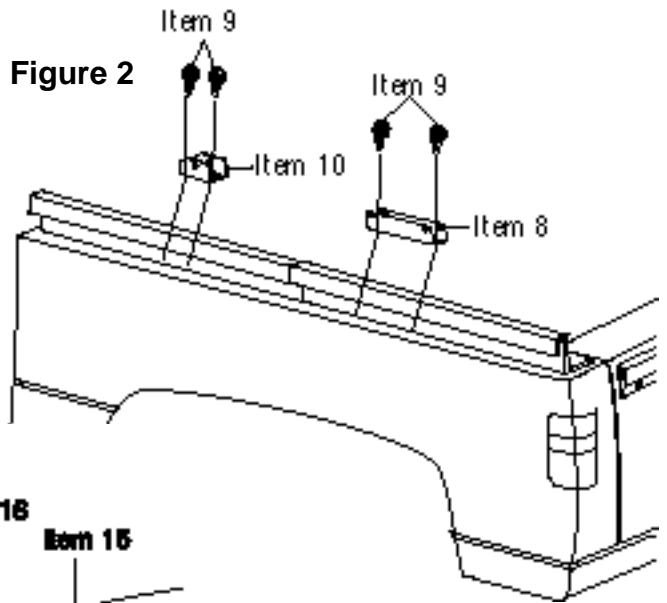

Figure 2
Step 4. Bow Mount. Using rear body aluminum as a template mark and drill two 5/32" holes. Place rear bow mount (Item 8) over holes just drilled. Secure to body with #14 x 1/2" sheet metal screws (Item 9). Using front body aluminum as a template mark and drill two 5/32" holes. Place front bow mount (Item 10) over holes just drilled. Secure to body with #14 x 1/2" sheet metal screws (Item 9). Repeat for the other side. See figure 2.